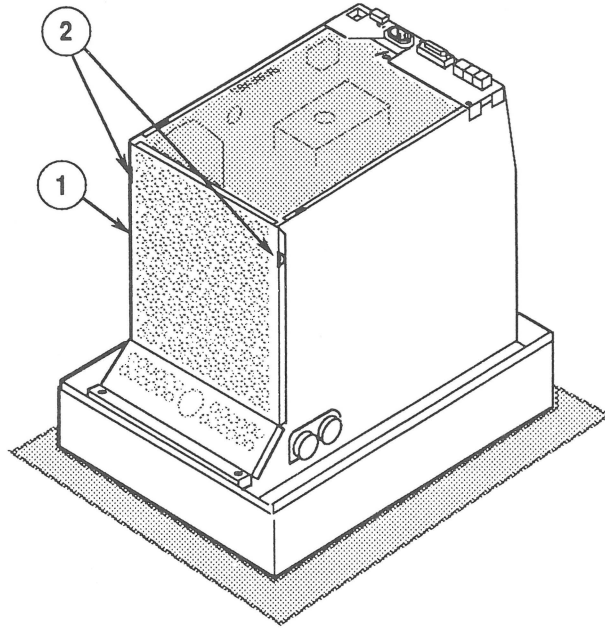

FIGURE 3
4. Pull up and remove the top panel of the EMI shield (Figure 3, #1) from the chassis.
1. Replace the top panel of the EMI shield (Figure 3, #1) on the chassis. To do this, insert the two panel tabs (Figure 3, #2) into the two slots in the chassis, and push the panel down to seat it on the chassis.